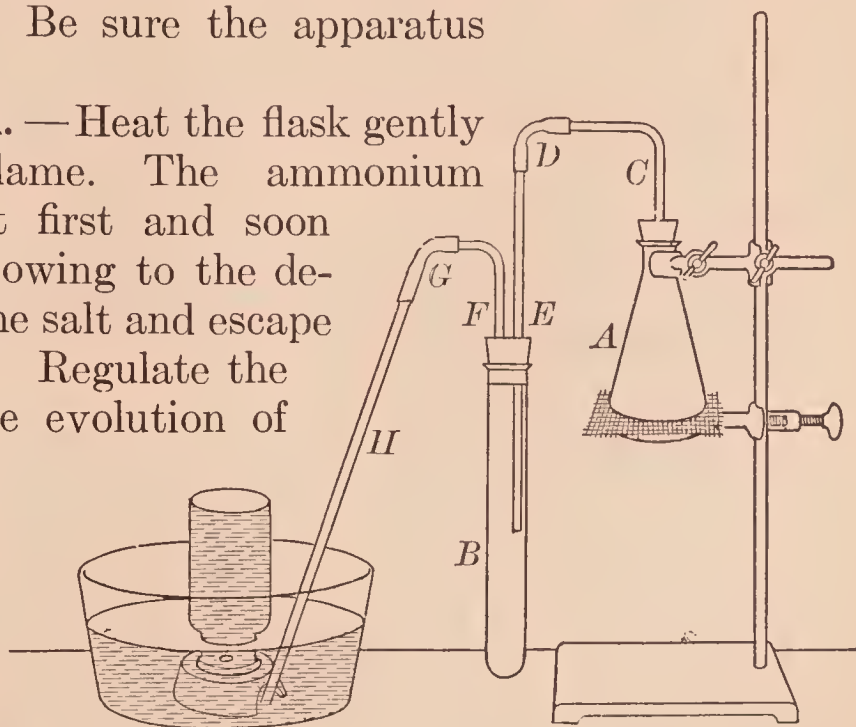

FIG. 52. — Apparatus for preparing nitrous oxide
**APPARATUS.** — As in Fig. 52.
Put 10 gm. of ammonium nitrate in the flask *A*. Arrange the apparatus as shown in Fig. 52. The large test tube *B* remains empty. Be sure the apparatus does not leak.